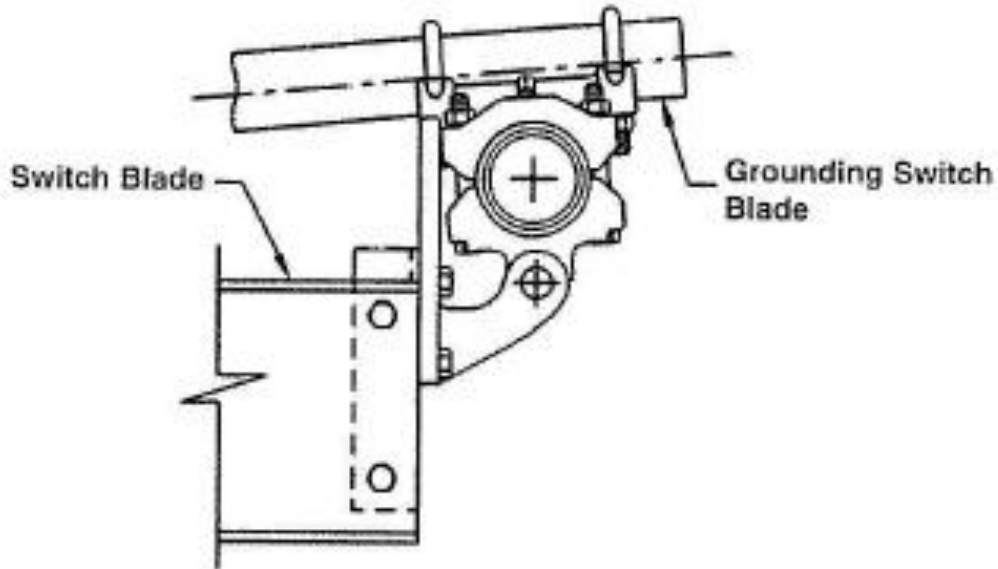

Figure 4: Blade Installed in Blade Clamp
6. With the Hinge Assembly positioned as shown in **Figure 4** (Aluminum Pipe Clamp should rest against the Hinge Terminal Pad), install the Blade into Blade Clamps.